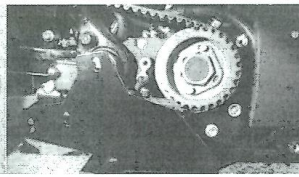

Figure 2.1 Install mounting bracket use stock screws.
Figure 2.1 hardware.
1. Remove exhaust system from protective packaging, it has been pre-assembled for easy installation. Place it in a non-abrasive surface such as a blanket or carpet. By doing this you can avoid scratching the parts in the installation process. We recommend using painters tape to cover parts and accessories on areas where damage can occur during installation. Review your hardware (See figure 2.1)